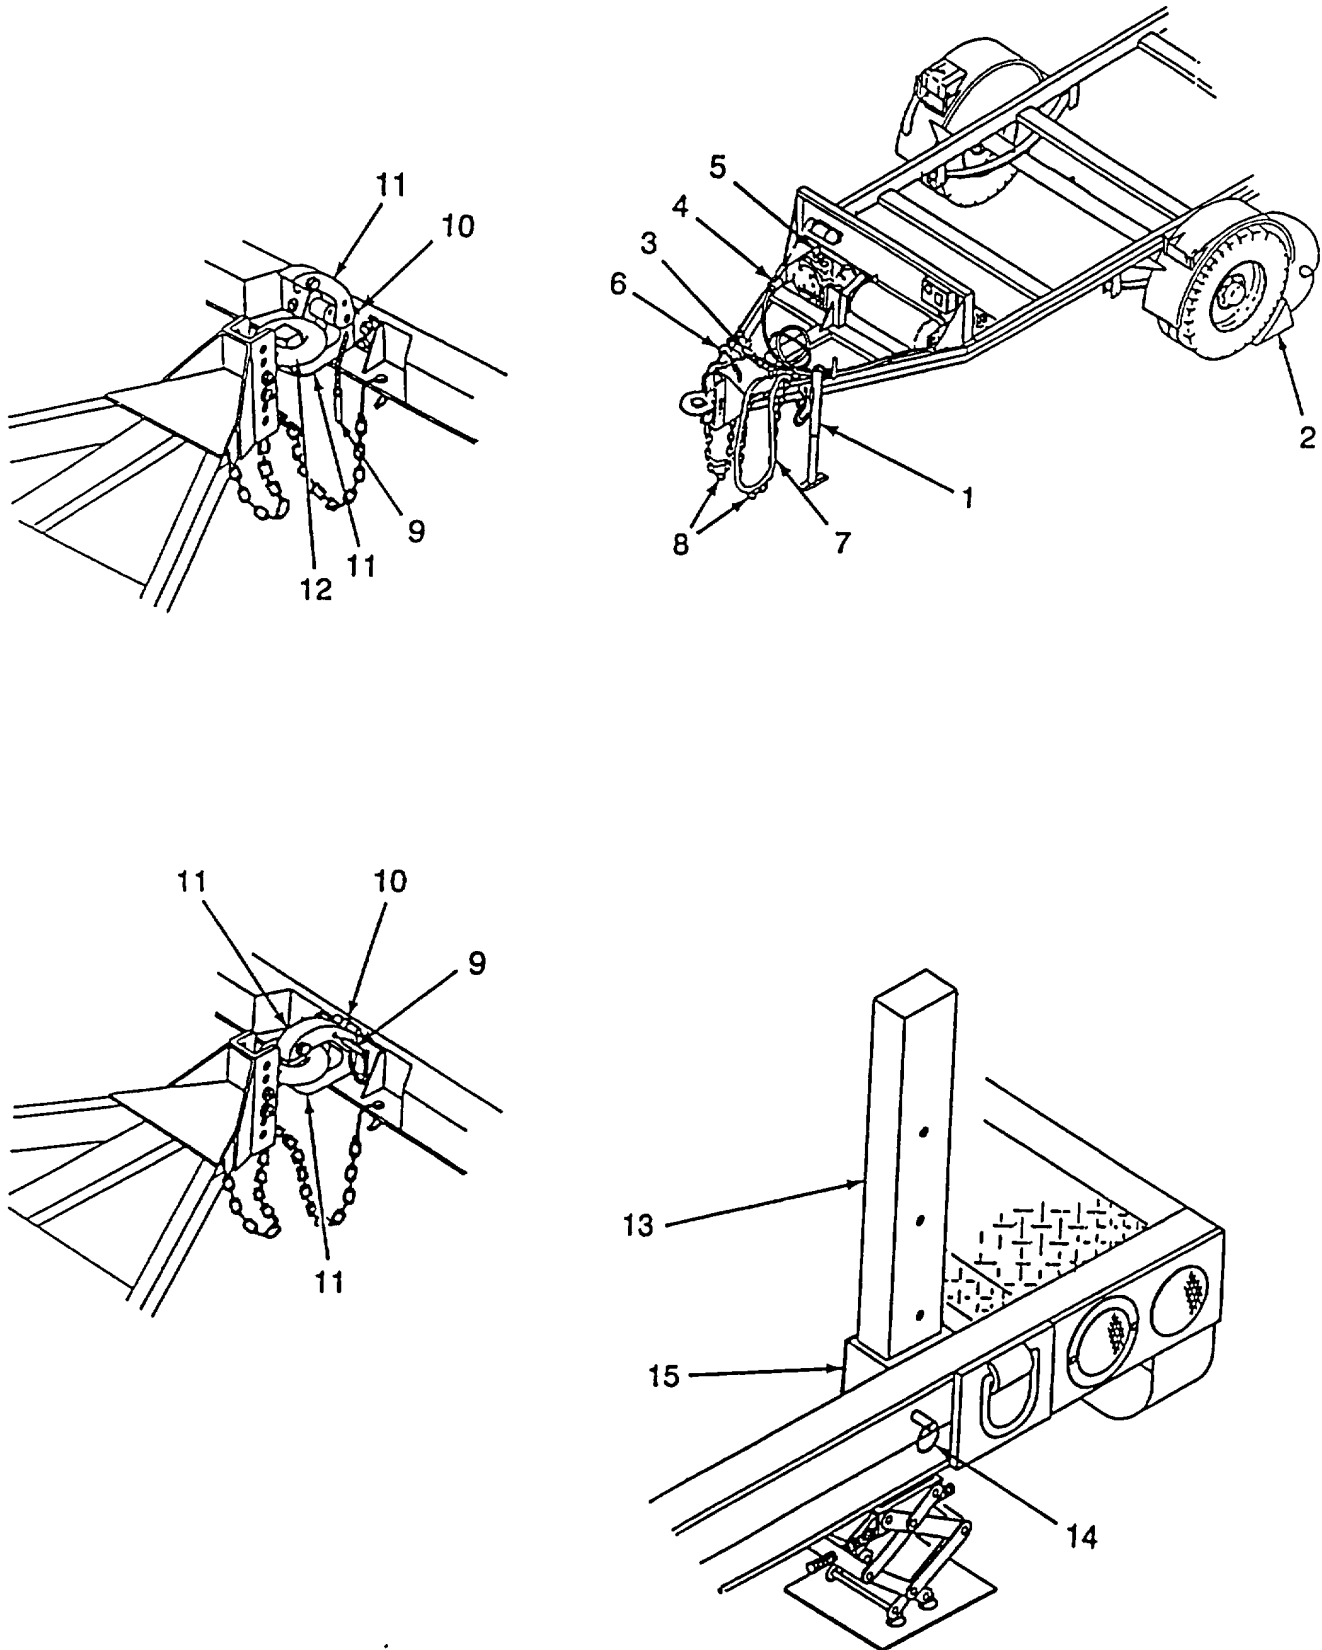

Figure 2-30. Driving and Parking
h. DRIVING AND PARKING (Refer to Figure 2-30.)